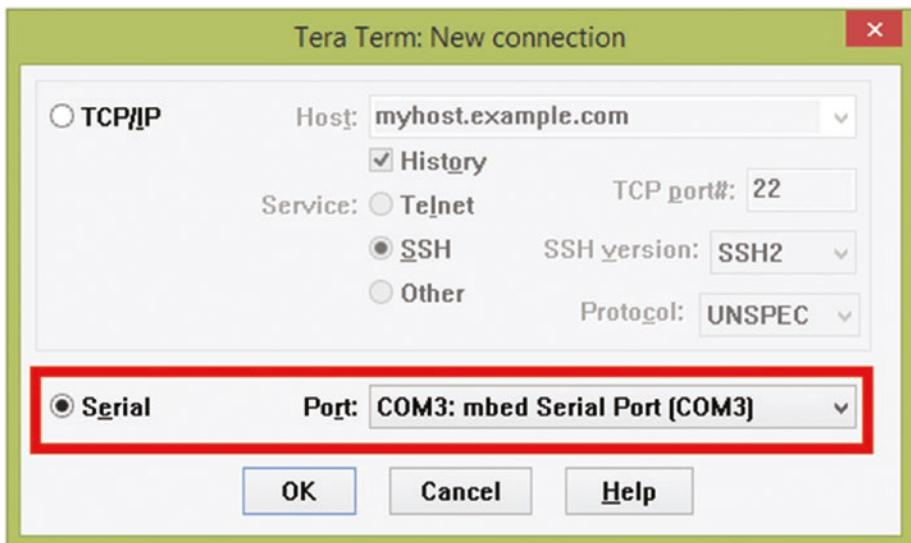

Figure A-4. Choosing the serial port for micro:bit
1. Tera Term opens and prompts you for a new connection (see Figure A-4). Select the Serial option and choose the correct COM port from the drop-down list for your micro:bit. Usually, the COM port for your micro:bit is called mbed serial port. Click OK; you should see a blank Tera Term window.